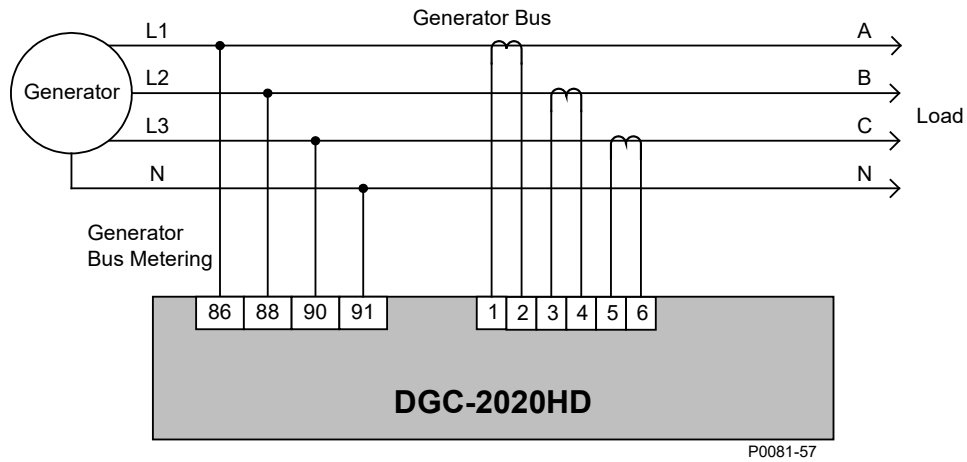

Figure 4-6. No Breaker Control Connections
- No breaker control Figure 4-6